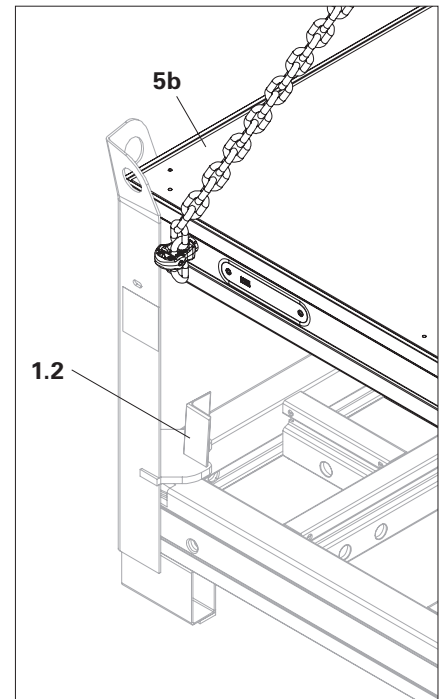
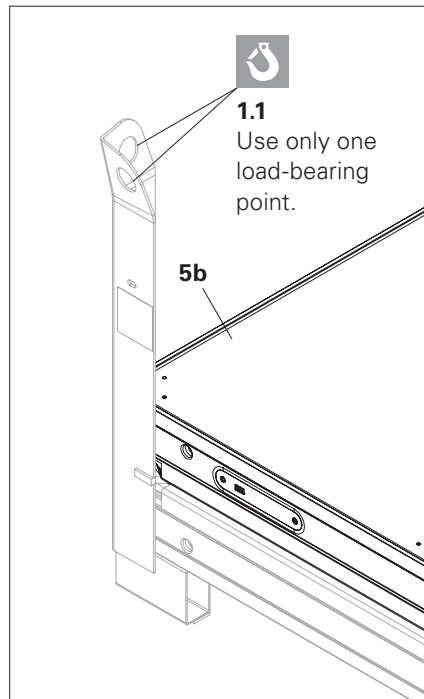

Fig. A2.02
Fig. A2.03
- The vertical support plate (**1.2**) positions the panel and allows Panels MX-2 (**5**) to be transported safely. (Fig. A2.02 + Fig. A2.03)